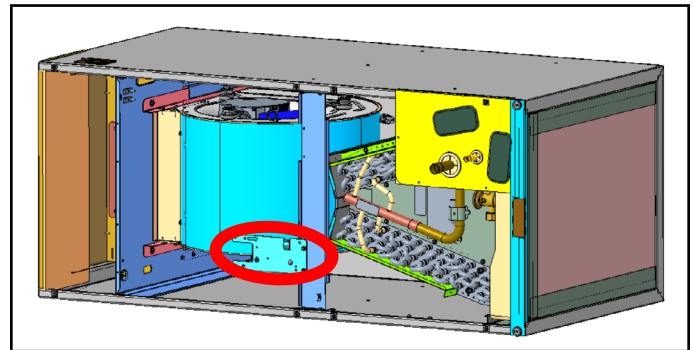

Figure 12
- 3 - After coil assembly and center support bracket are reinstalled into unit, with air handler unit panels removed, install sensor bracket assembly to the center support bracket by lining up the holes as shown in Figure 12.